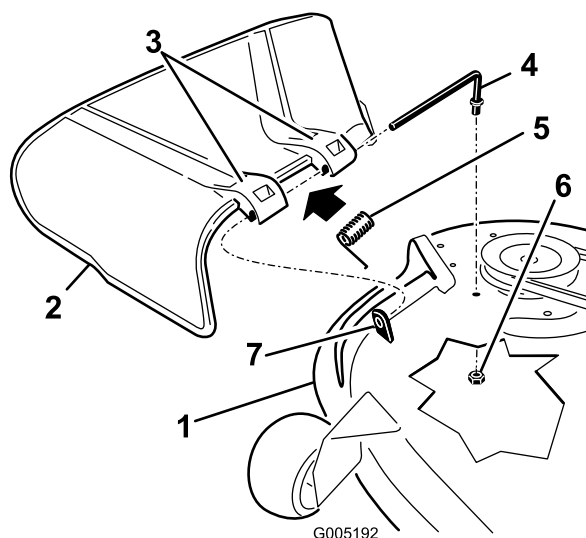

Figure 60
- Remove the nut (3/8 inch) from the rod under the mower (Figure 60).
- Slide the rod out of the short stand-off, spring, and grass deflector (Figure 60).
- Replace the grass deflector (Figure 60).
- Slide the rod through the second grass-deflector bracket (Figure 60).
9. Secure the rear end of the rod into the mower with a nut (3/8 inch) as shown in Figure 60.